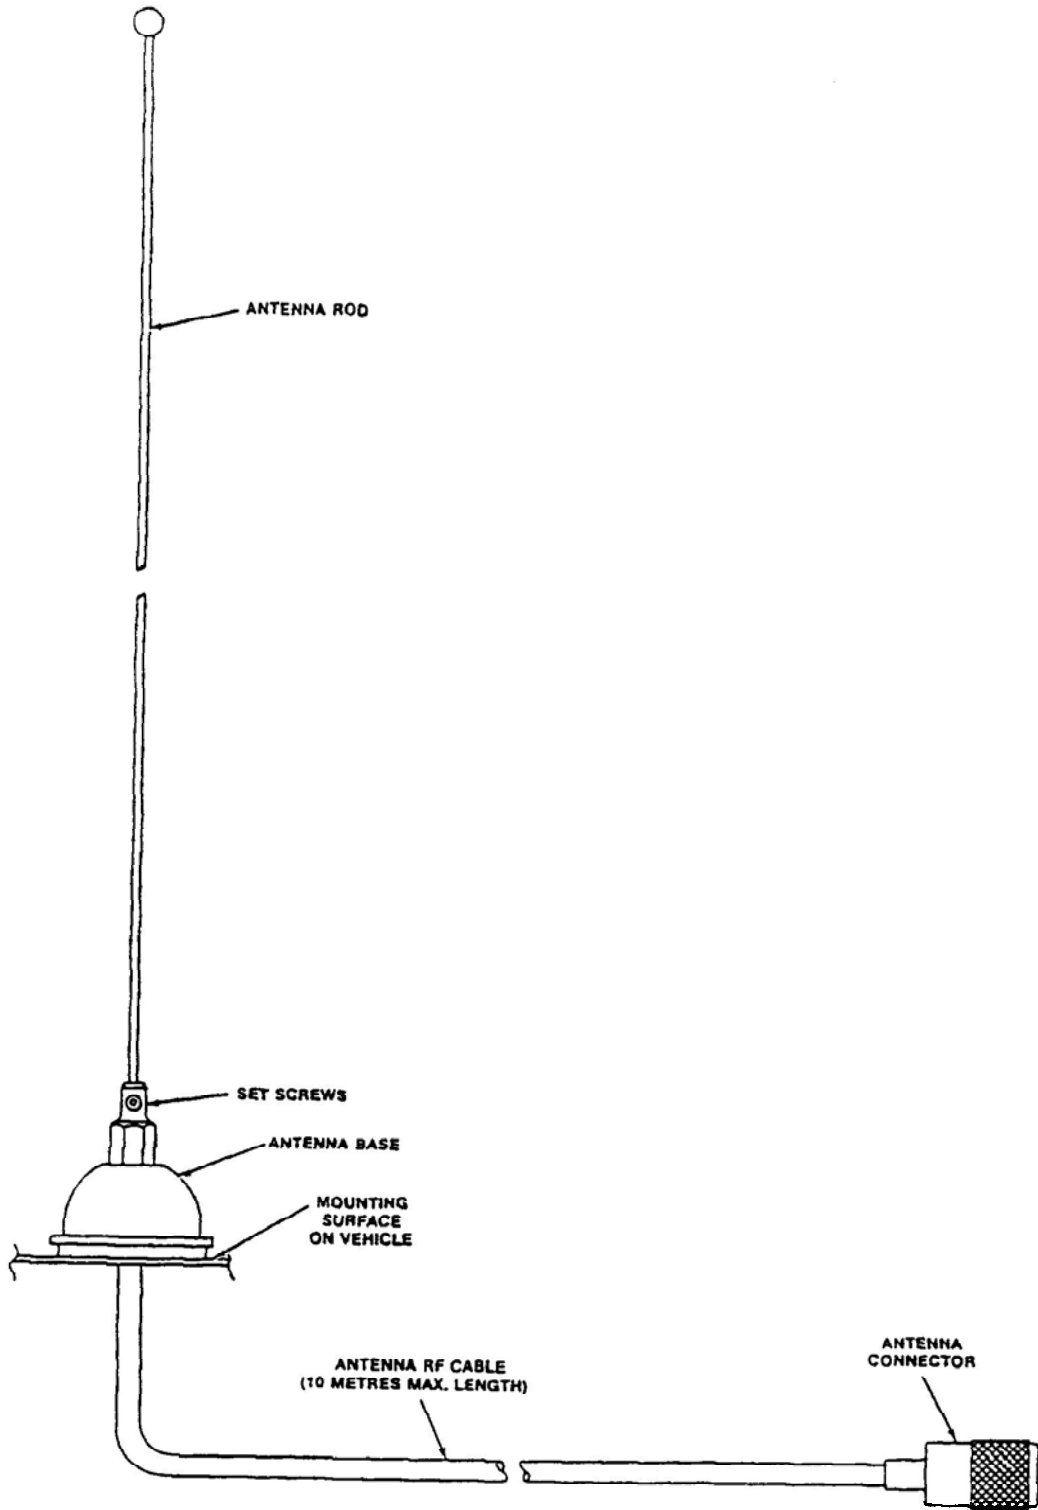

Figure 1-5 Antenna Assembly, P/N 861910-1 - General View
- (e) Antenna Assembly, Part Number 861910-1, is supplied complete as a kit which includes the following items: Antenna Base, which includes a mounting pad, together with a pad, braid nut, sleeve and clamp for termination of the antenna RF cable. The Antenna Rod is supplied with an Allen Wrench for adjustment of its set screws. The Antenna RF Cable is a ten-metre length RG58/U coaxial cable terminated at one end by an UHF, male contact, connector which mates with the UHF, female contact, antenna connector located at the right-rear of the transceiver. The antenna may be mounted on any flat surface, roof, cowl, fender or rear deck of a vehicle, however, rooftop mounting is recommended for best performance. A general view of the antenna assembly is given in Figure 1-5.
Antenna Assembly, Part Number 861910-1, is supplied as a kit which includes an installation leaflet. The antenna is shown assembled in Figure 1-5.